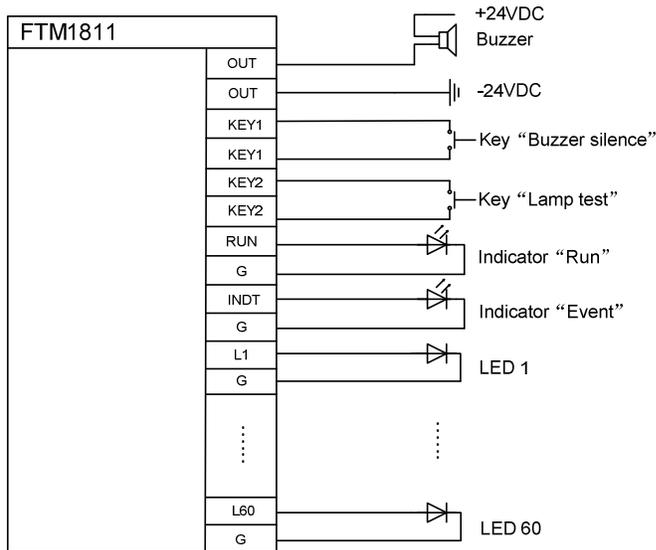

Fig.5 Connection diagram 1
4. Connect the cables to the terminals (refer to Fig. 5./Fig.6)